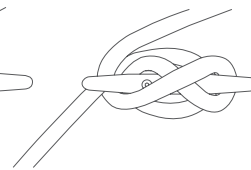

Fig 19 -
2. Then on top of the full loop make a figure of eight and pull tight (Fig 19).